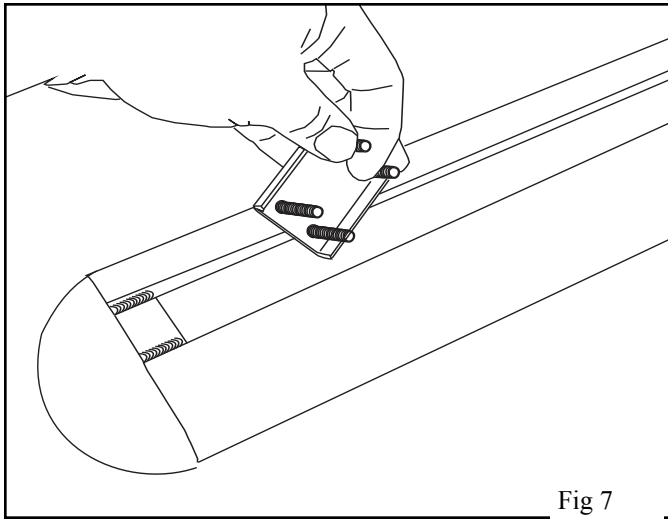

Fig 7
- 5 Install the drivers side step bar with the M6 hardware as shown in (FIG 7,8,9)